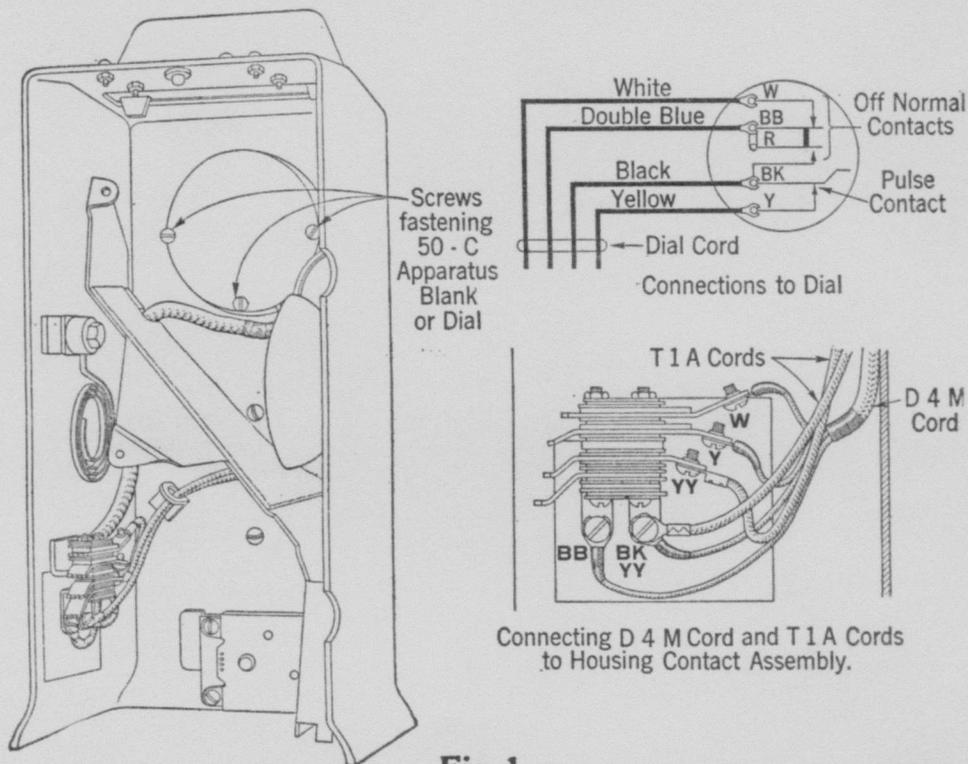

Fig. 1.
- (4) Disconnect the clip of the yellow wire at the "Y" terminal on the connecting block.
- (5) Unlace the cable form, take out the white wire and remove the spring assembly that makes contact with the upper housing contact springs.
- (6) Install a new contact spring assembly D-22990 which is furnished with the wires attached.
- (7) Solder the wires from the spring assembly to terminals as follows:
- (8) Connect yellow wire clip to "Y" terminal on the connecting block.
- (9) Place wires in the cable form and lace up the form.
- (10) Replace the circuit label.
- (11) Place an upper housing equipped with a dial and a No. 1B card holder on the coin collector. Refer to Fig. 1 and associated note for further information regarding upper housings.
- (12) Mount instruction card in the No. 1B card holder.
- (13) Make tests for operation in accordance with sections in Division C60.
- (1) Remove the upper housing.
- (2) Remove coin chute and apparatus blank from upper housing.
- (3) Remove wire connecting terminals "W" and "BB" in the upper housing and change the transmitter cord from terminal "Y" to the terminal designated "BK-YY." See Fig. 1 and associated note.
Note: The terminals designated W, Y, YY, BB and BK-YY in the above figure are designated W, Y, BK-YY, BB-YY and 5, respectively, in the upper housing for later type coin collectors. If the upper housing for a later type coin collector is used on a 50G or 50H coin collector wire to the terminals that correspond to those shown in Fig. 1.